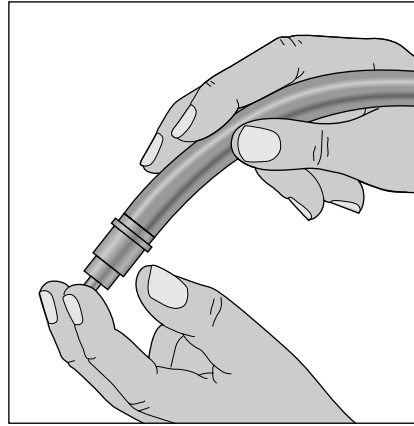

Figure 8-8: One way to check your PCV valve.
- ✓ **Method 1:** Following the instructions in the next section, remove the PCV valve from the **valve cover** with the hose still attached. Then place your finger over the open end of the hose (see Figure 8-8). If the valve's working well, you will feel strong suction. Try shaking the valve. If it's unobstructed, it should rattle. If it's fouled, the rattle will be indistinct or non-existent.